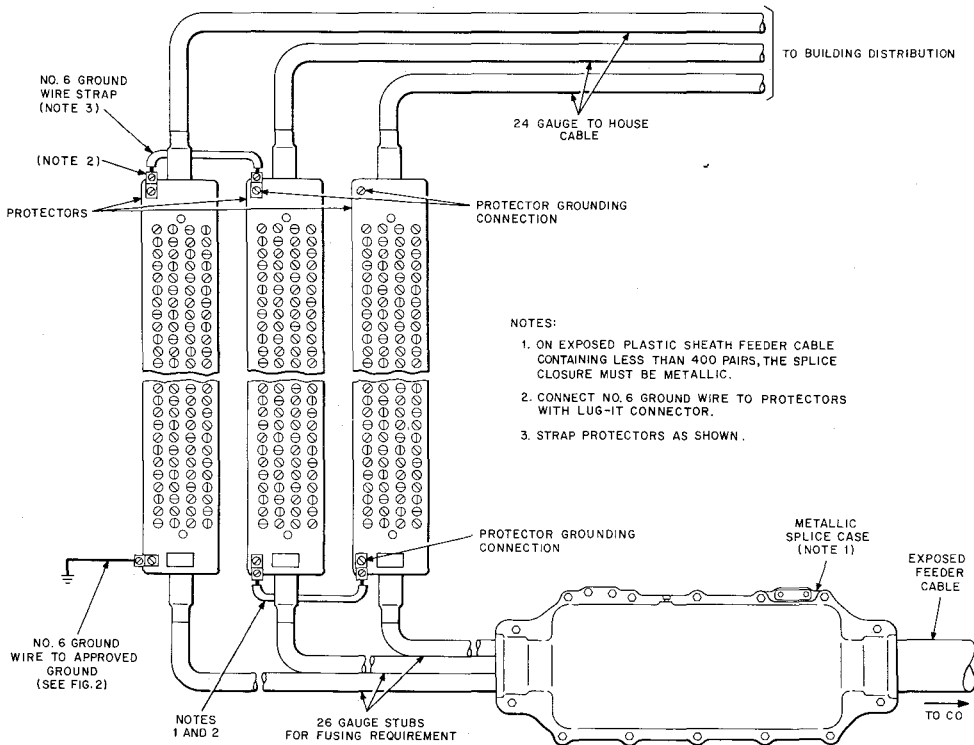

Fig. 1—Grounding 134-Type Protectors
**1.04** Where more than one protected terminal is installed, they must be bonded together as shown in Fig. 1.